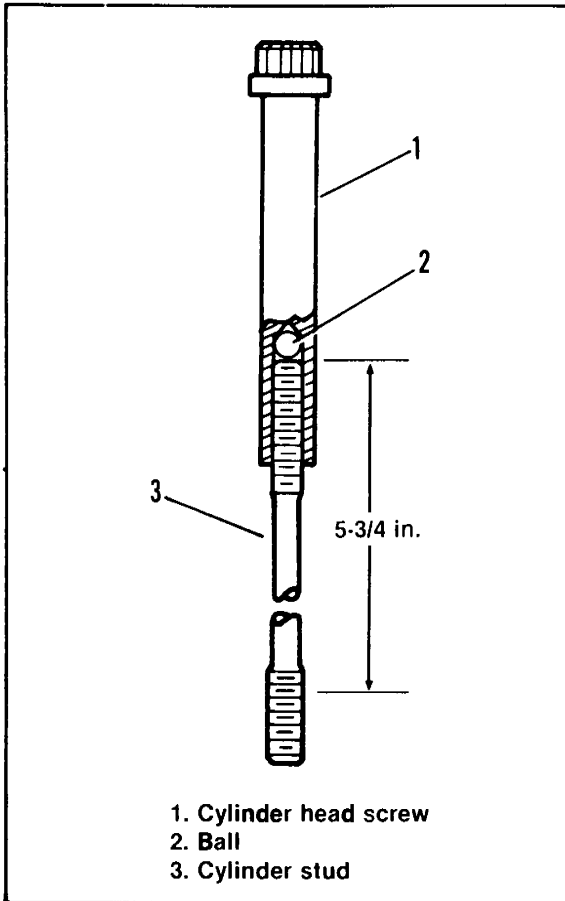

Figure 3-47. Cylinder Stud and Head Bolt
2. See Figure 3-47. Place 0.313 in. DIAMETER BALL, Part No. 8860, from the XL clutch release mechanism into the head bolt recess. Thread the stud into the head bolt until the stud bottoms on the ball.